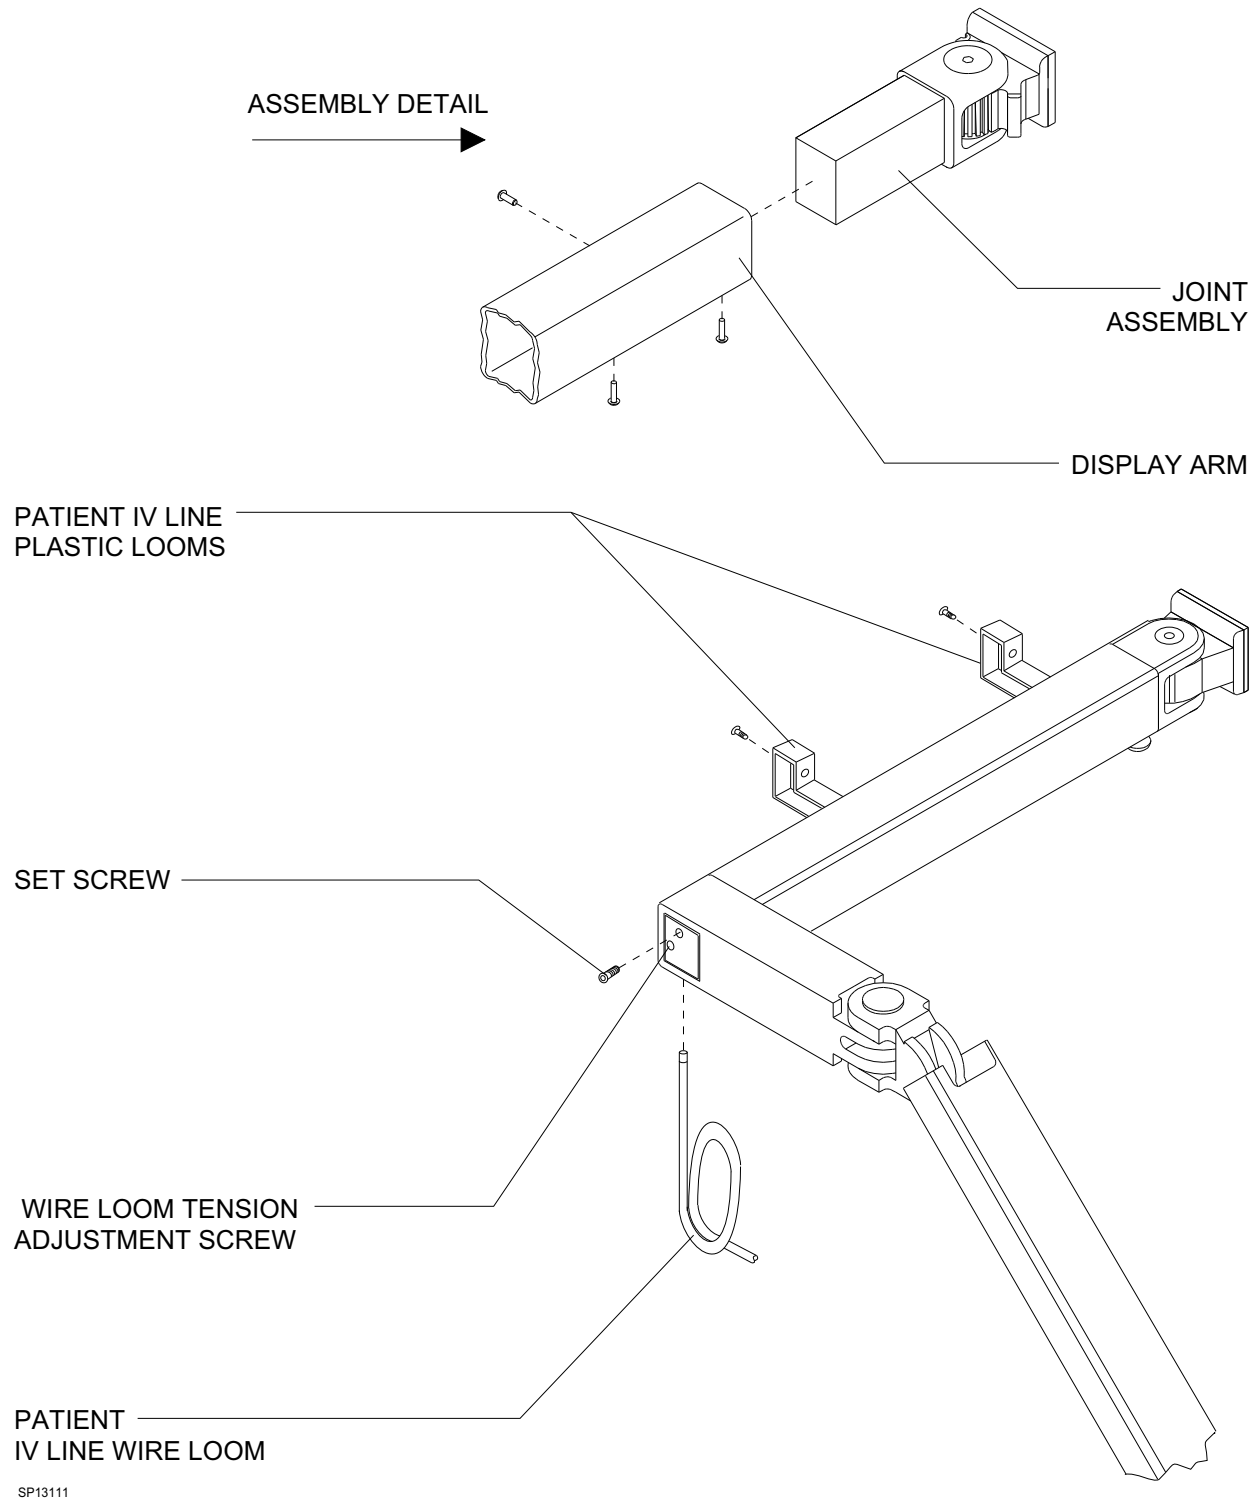

Figure 11: ASSEMBLING THE DISPLAY ARM HARDWARE
NOTE: Steps 48 thru 52 are performed using the hardware provided in the packet supplied with the adjustable remote arm. Refer to Figure 11 for these steps.
- 46A. If the joint assembly is not pre-assembled to the display arm, insert the joint assembly into the arm and secure it with three 10-32 x $\frac{9}{16}$ in. button head socket screws (P/N HW09005). See assembly detail in Figure 11.